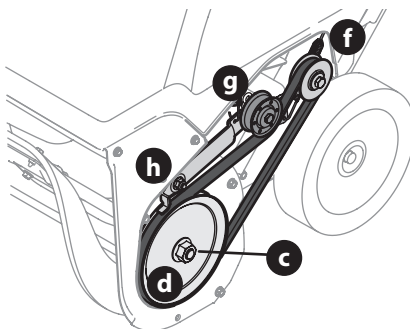

Figure 30
7. Route the new auger belt around the drive pulley (f) and under the idler pulley (g) (Figure 30).